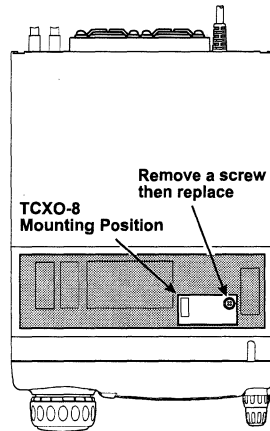

Figure 7
3. Refer to Figure 7, and mount the **TCXO-8** onto its connector, securing the **TCXO-8** with the supplied mounting screw.